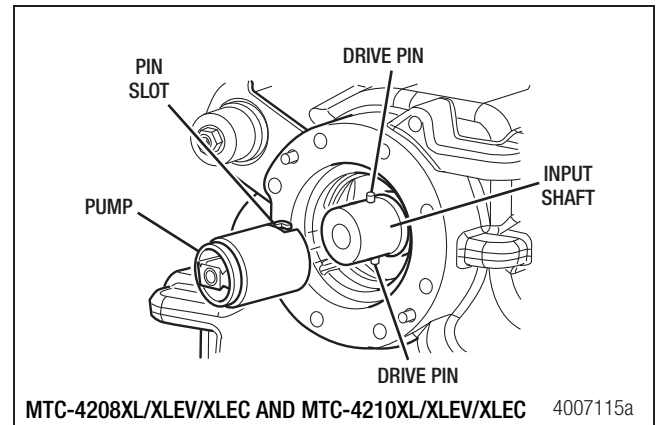

Figure 7.42
3. Place the pump onto the input shaft. Rotate the pump assembly to engage the drive pins. Ensure the pump is correctly seated. Leave 3/16" (4.763 mm) of the drive pins extending from the input shaft. Figure 7.42.